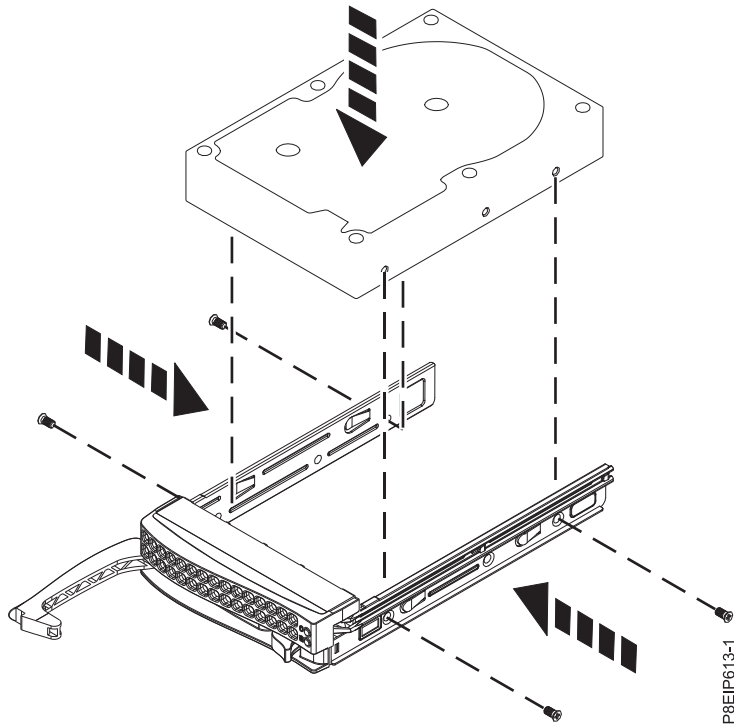

Figure 3. Mounting the 3.5-inch disk drive in the drive tray
2. Install a disk drive into the drive tray. Orient the disk drive such that the connectors are pointing to the rear of the disk drive as shown in Figure 3 on page 6. Fasten the disk drive to the sides of the drive tray with four screws (two screws on each side).